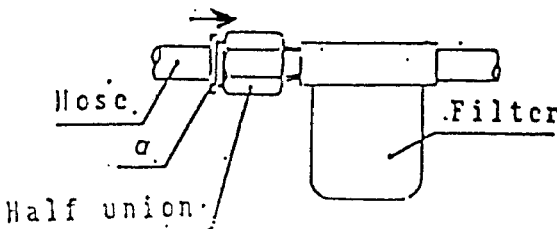

fig. 5
2. Pull out the hose from half union (fig. 5). Push at point "a" of half union in direction of arrow and pull out hose.
12. Set hose into half union (fig. 5).
3. Pull out hose from half union (fig. 5). Push at point "a" of half union in direction of arrow and pull out hose.